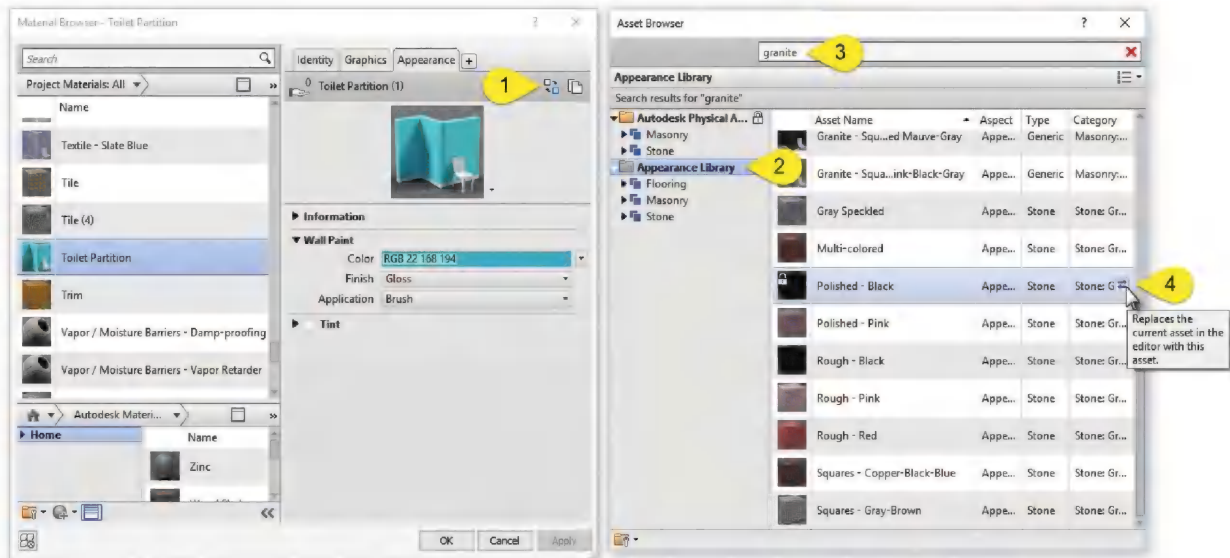

FIGURE 13-3.7 Material selection
17. Change the *Render Appearance* to *Stone - Granite, Polished - Black* (Figure 13-3.7).